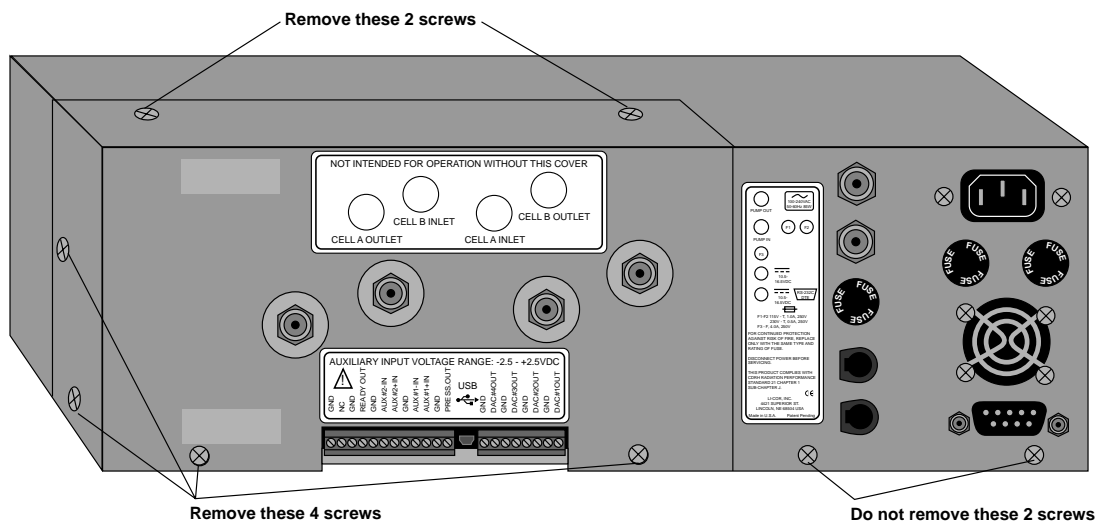

Figure 7-1. Remove the 6 screws shown and take off the removeable panel.
1. Remove the 6 screws on the LI-7000 case that secure the removeable panel, as shown in Figure 7-1. Slide the panel off over the air fittings. The interior of the LI-7000 will appear as shown below.
1. Remove the six screws on the removeable panel as shown in Figure 7-1, and slide the panel off.